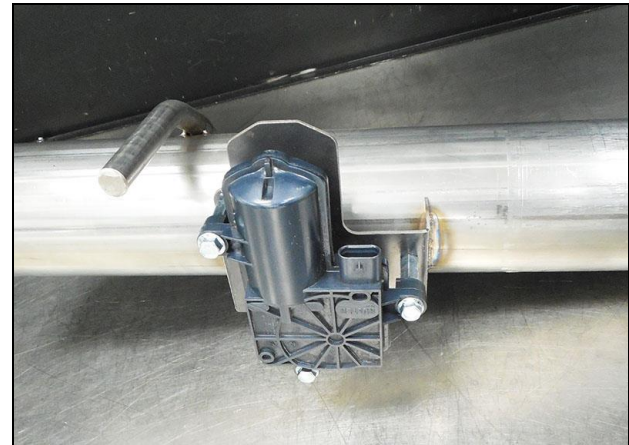

Figure 5
- Reference (Figure 5) for installed AEV actuator.